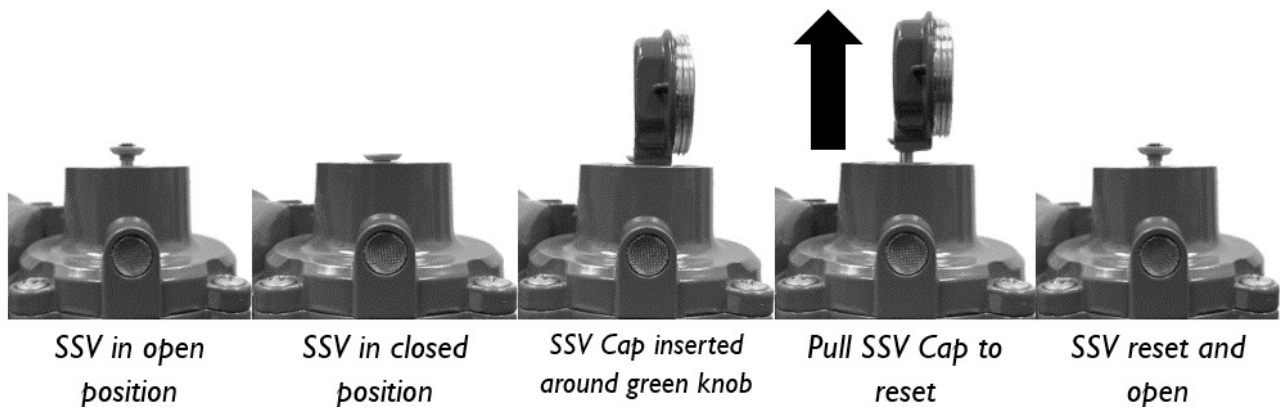

Figure 5: SSV Reset Procedure
START UP PROCEDURE: Refer to Figures 5 & 6
3. If the SSV stem (807) is in the open position (See Figure 5) proceed to step 7. If the SSV stem is in the closed position, proceed to step 4.
4. Unscrew the cap of the SSV (23) and slide the cap around the green knob (821) on the end of the stem (807) (Figure 5). A needle nose pliers can also be used in place of the cap.
5. Slowly pull on the stem/reset knob as shown in Figure 5, taking care not to bend the stem (807). The force required to reset the SSV will increase as inlet pressure to the regulator increases.
6. Once outlet pressure begins to increase, hold the stem in that position. When outlet pressure is below the OPSO set point and above the UPSO set point (if equipped), the reset can occur. Pull the stem so the SSV is wide open and the stem should remain in that open position when you remove the cap from the green knob, as shown in Figure 5.
8. Replace the cap (23) and tighten to avoid any moisture ingress into the safety device.
3. If the SSV activates during this process and pressure remains on the upstream side of the regulator, use the cap (23) or a pair of needle nose pliers to hold the SSV in the open position until all pressure is removed from the system. See Figure 5 for more information.